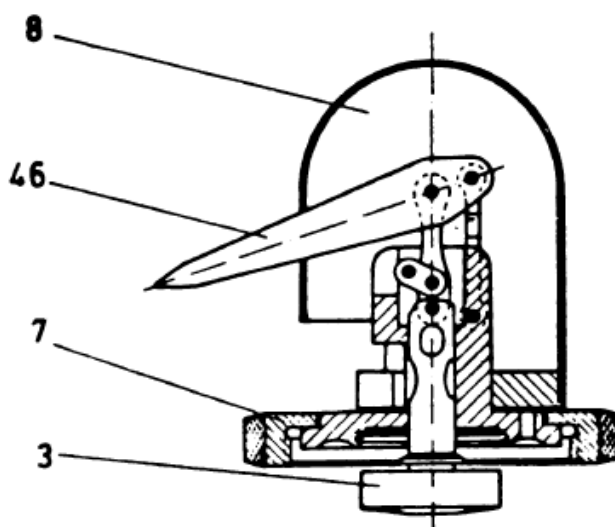

Fig. 3 - Upper-part
The detachable upper part of the indicator type S1 (fig. 3) forms one single unit with the recording mechanism (46) and piston (3). Cover (8) fastened by 2 screws protects the recording mechanism from being damaged and only the recording lever protrudes from a slot in the cover. For cleaning and oiling the links, take off the cover. We do not recommend dismantling the links, for we abandoned the use of screws to save weight, and the tiny rings securing the bolts cannot be mounted without the application of special tools. Should the recording mechanism be damaged, it is advisable to return the whole upper part or rather the entire indicator to our works.
As already mentioned under section 3, the piston forms one unit with the upper part and is not interchangeable (see fig. 3). Each piston size requires an upper part of its own. For exchanging the cylinder (5) remove the upper part by loosening ring nut (7), then unscrew and exchange the cylinder using the cylinder key supplied as cylinder accessory.